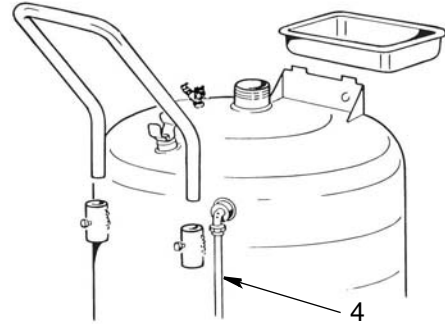

FIG. 15
4. Monitor the oil level regularly to ensure you do not overfill the tank. When the tank is full or nearly full, as indicated on oil level gauge (4) (FIG. 15), empty the tank. (See Empty the Tank, page 10.)